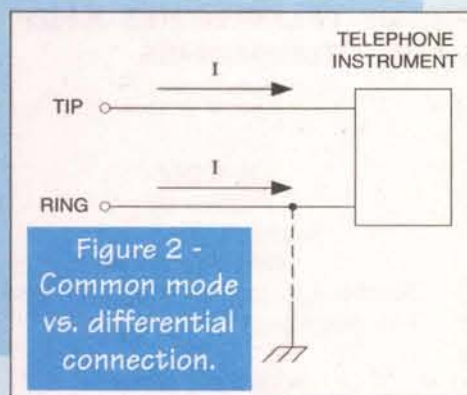

Figure 2 -
The telephone system is normally common mode, which is to say that it is balanced with respect to ground. Figure 2 shows this condition. When common mode integrity is maintained, the currents (I) flowing due to RF will be equal, nulling out at the instrument. It is not guaranteed that common mode lines will be EMI-
Occasionally, a differential mode condition exists. This is an unbalanced condition. This is illustrated by the grounded condition in Figure 2. This mode can exist because of staples used to mount the wire breaking one insulator but not the other, by insulation breaking down, and by wiring errors. When the differential mode exists, the telephone will still operate as before, but the susceptibility to EMI will be tremendously increased.